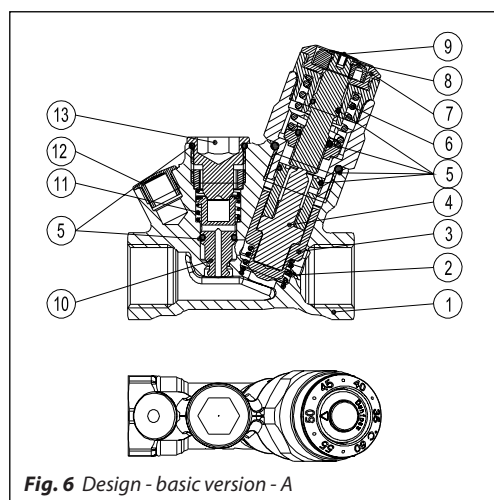

Fig. 6 Design - basic version - A
The MTCV - is a thermostatic self-acting, proportional valve. A thermo-element (fig. 6 elem. 4) is placed in the valve cone (fig. 6 elem. 3) to react to temperature changes.
A safety spring (fig. 6 elem. 6) protects the thermo-element from being damaged when the water temperature exceeds the value on the set point.
After removing the plug from the disinfection plug (fig. 6 elem. 13)-(this can be done during working conditions, under pressure) the thermostatic disinfection module can be mounted (fig. 9 elem. 17).
- 1-13 As described in fig. 6
After removing the disinfection plug (fig. 6 elem. 13) the adapter can be mounted (fig. 12 elem. 21) and the thermo actuator TWA can be mounted.